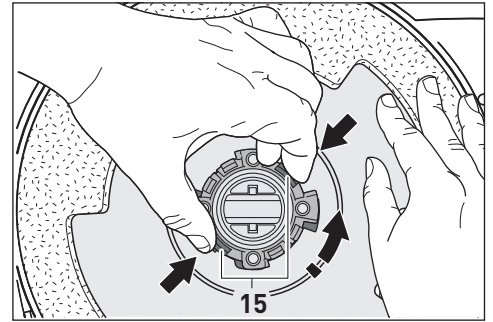

Figure 10
## Changing the Floor Pad - Figures 10, 11 & 12
To change the floor pad, press the retainer tabs (15) inward using your thumb and forefinger. Rotate the pad (13) counter clockwise (figure 10). Lift the floor pad out.